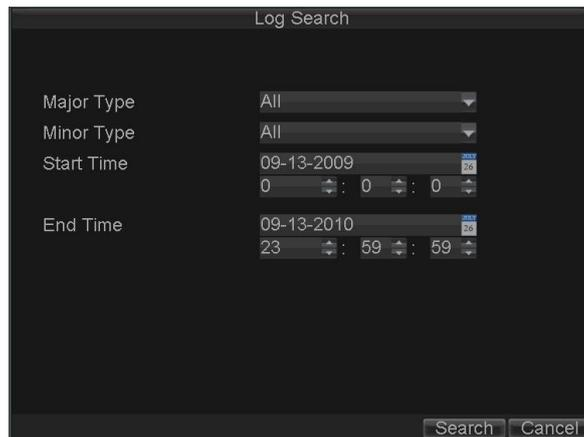

Figure 15. Log Search Menu
1. Click **Menu > Maintenance > Log Search** to enter the Log Search menu, shown in Figure 15.